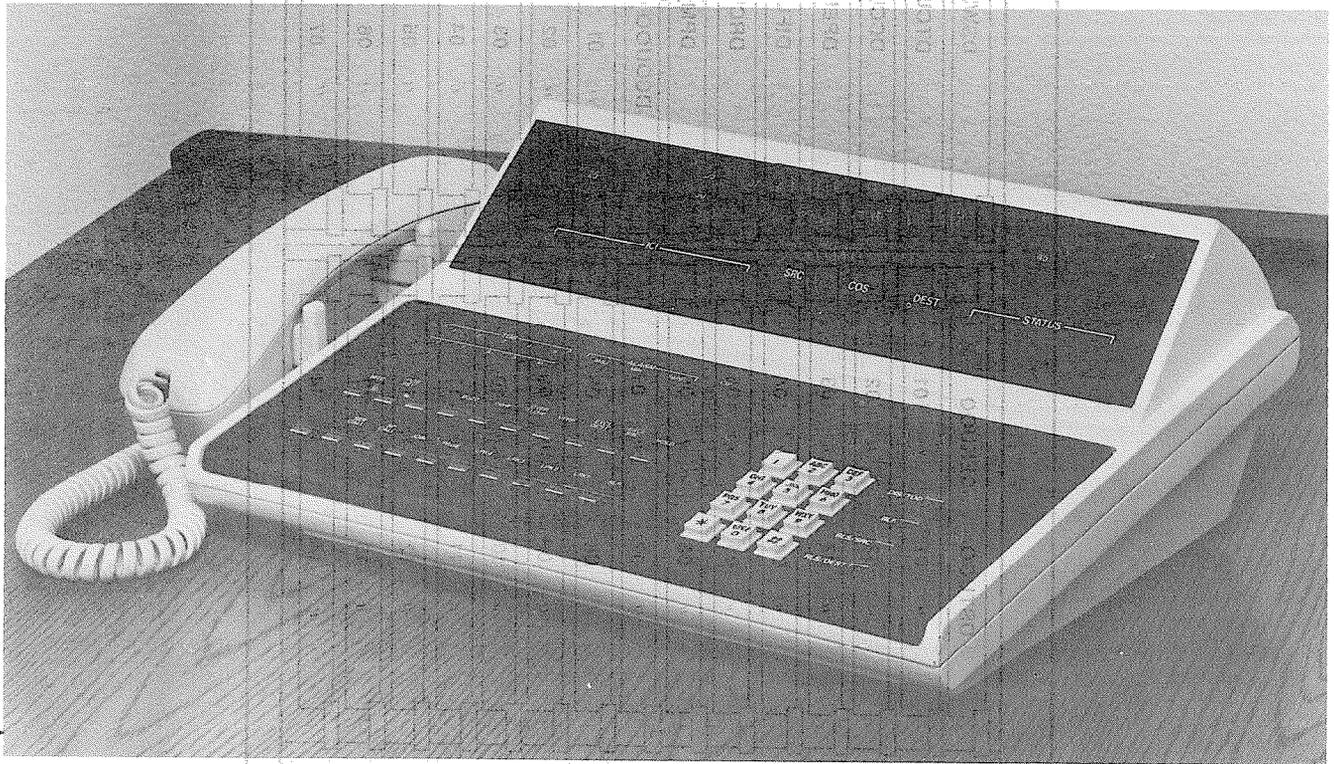

FIGURE 4—ATTENDANT CONSOLE
01.31 The PERCEPTION Attendant Console (Figure 4) is enclosed in an off-white plastic